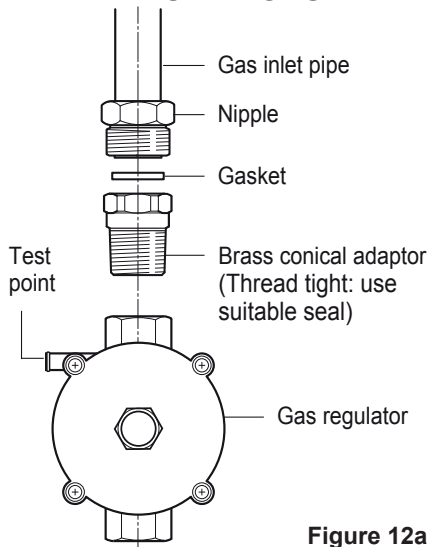

Figure 12a
- Before connecting the appliance to the gas main, mount the brass conical adaptor onto the gas inlet pipe, upon which the gasket has been placed (figs. 12a - 12b). Conical adaptor and gasket are supplied with the appliance (packed with conversion kit for use with Natural Gas or ULPG).
- For Natural Gas models the gas supply is connected to the pressure regulator which is supplied with the appliance (fig. 12a). Adjust the regulator to obtain a test point pressure of 1 kPa with the two semi-rapid (SR) burners operating at maximum.
- If the cooker is suitable for use with Natural gas and must be converted for use with ULPG, before connecting to the gas mains remove the appliance gas regulator and replace with test point adaptor (see figs. 12a - 12b).
- If the cooker is suitable for use with ULPG and must be converted for use with Natural gas, before connecting to the gas mains remove the appliance test point adaptor and replace with gas regulator (see figs. 12a - 12b).